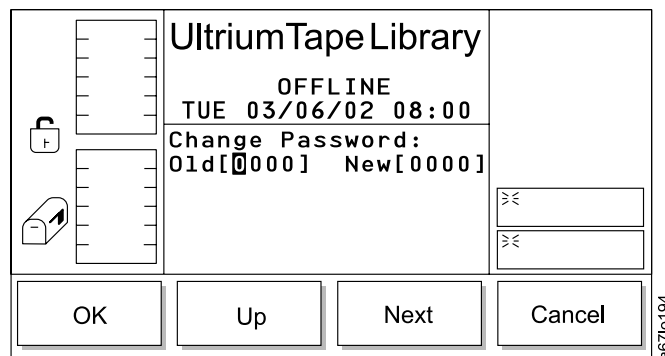

Figure 157. Set/Change Password Dialog
**Note:** The first time that you enable security, the password is 0000. To set the password to a password of your choice select **Next** so that the Set/Change Password field is highlighted and select **OK**. The Set/Change Password Dialog displays (see Figure 157 on page 131).
- If **Next** is selected, the next field in the list becomes the active field. If the next field is Set/Change Password, the Set/Change Password dialog displays (see Figure 157 on page 131).
**Set/Change Password:** If **Yes/No** is selected from the Secure Dialog and Set/Change Password is highlighted, the Set/Change Password Dialog displays (see Figure 157).